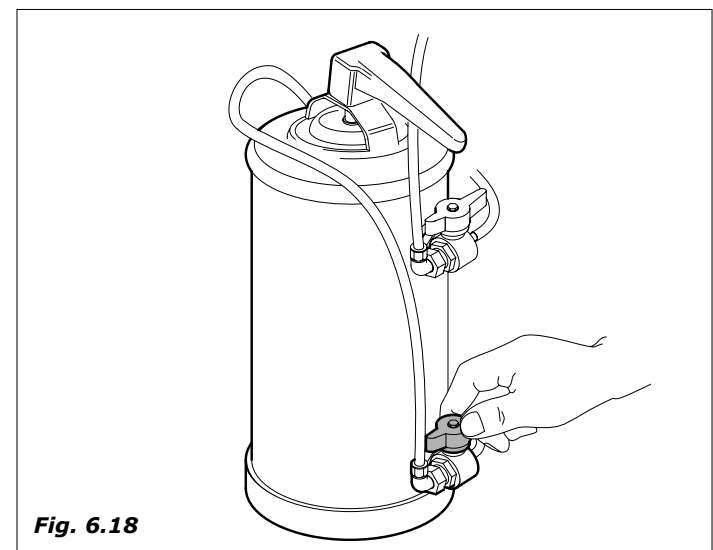

Fig. 6.18
- switch on the machine and let the water pour out until it is no longer salty (Fig. 6.18).